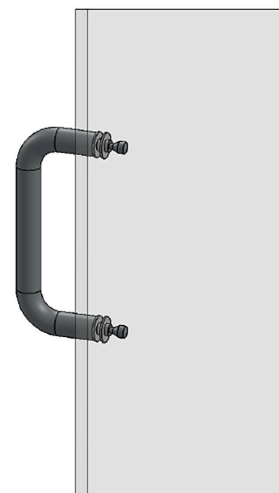

FIGURE 28A
Place handle through holes in the Door Glass (O). Make sure that the clear washers are touching the glass. Gently tighten handle screws so that handle is snug on glass. **DO NOT OVER-TIGHTEN THE SCREWS** with the allen wrenches supplied with the pull. Over-tightening can crack the washers. (See Figure 28A)